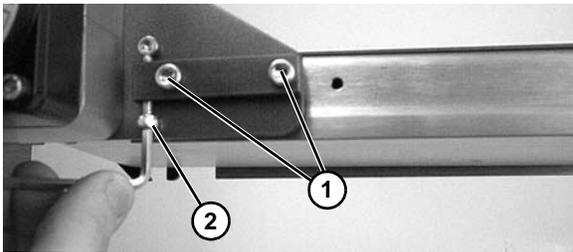

Figure 10
1. Loosen two (2) screws (**Figure 10, item 1**). Tighten timing belt tensioner screw (**Figure 10, item 2**) to 15 in-lb (1.7 Nm).
2. Tighten screws (**Figure 10, item 1**) to 80 in-lb (9 Nm).
1. Loosen two (2) screws (**Figure 10, item 1**).
2. Loosen timing belt tensioner screw (**Figure 10, item 2**).
8. Tighten timing belt tensioner screw (**Figure 10, item 2**) to 15 in-lb (1.7 Nm)
9. Tighten screws (**Figure 10, item 1**) to 80 in-lb (9 Nm).